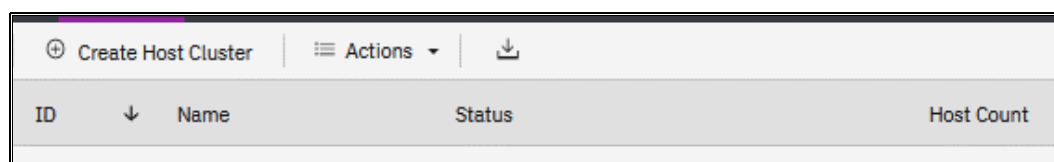

Figure 7-32 Create Host Cluster window
2. Click **Create Host Cluster** to open the wizard that is shown in Figure 7-32.